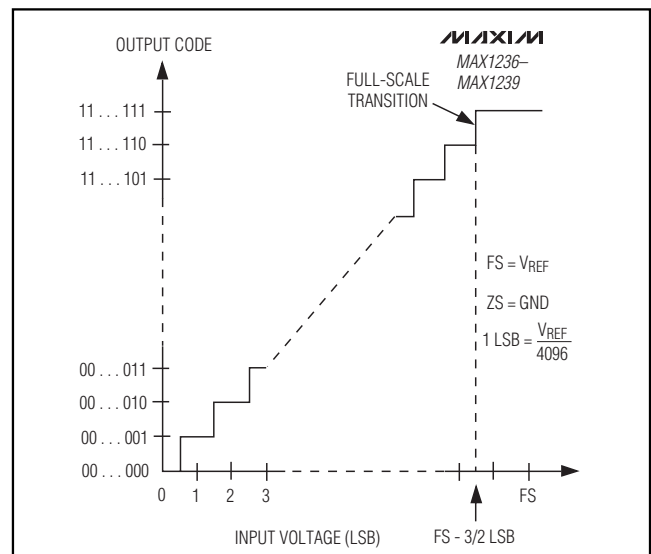

Figure 12. Unipolar Transfer Function
Output data coding for the MAX1236–MAX1239 is binary in unipolar mode and two's complement in bipolar mode with 1 LSB = (VREF / 2N) where “N” is the number of bits (12). Code transitions occur halfway between successive-integer LSB values. Figures 12 and 13 show the input/output (I/O) transfer functions for unipolar and bipolar operations, respectively.